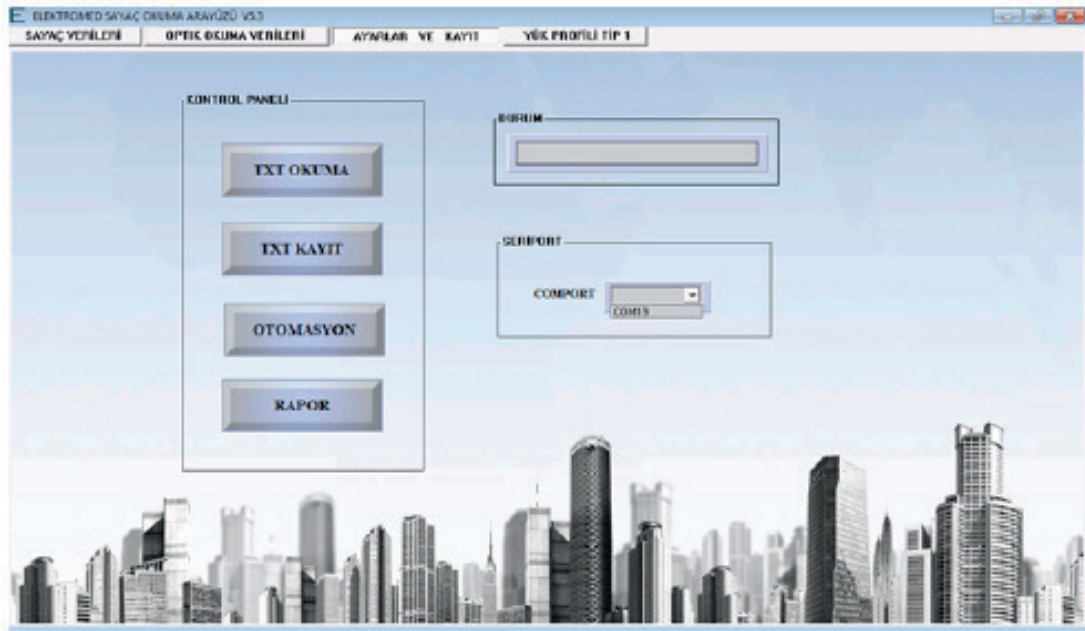

Figure-2
9) Run the Elektromed meter reading software. Apply the necessary COMPORT settings on the “SETTINGS AND STORAGE” tab (Figure-2).